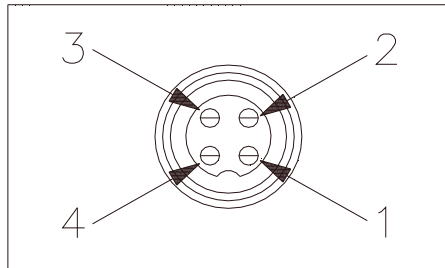

Fig. 3 Microphone plug pin numbers viewed from rear of pin receptacle.
- The wires must now be soldered to the pins as indicated in the above wiring tables. If a vise or clamping tool is available it should be used to hold the pin receptacle body during the soldering operation, so that both hands are free to perform the soldering. If a vise or clamping tool is not available, the pin receptacle body can be held in a stationary position by inserting it into the microphone jack on the front panel. The numbers of the microphone plug are shown in Fig. 3, as viewed from the back of the plug. Before soldering the wire to the pins, pre-tin the wire receptacle of each pin of the plug.